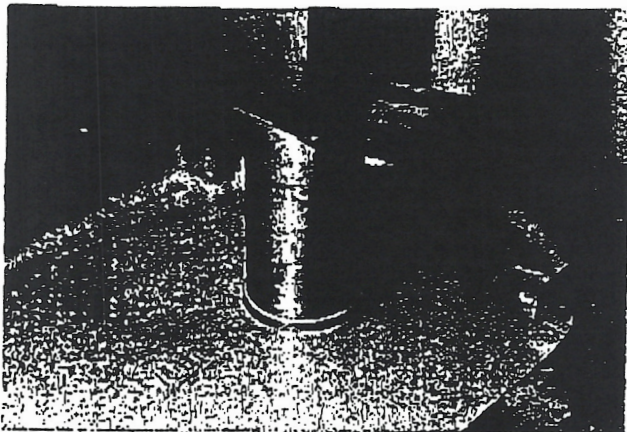

Figure 3 — Installing New Inboard Shaft Seal
2. Install the new *inboard* seal first (after preparing it as discussed below) using an arbor press. Place the machined front face of the end cover directly on the press table as shown in Figure 3, and use a steel disc or plug between the press ram and the seal. The disc should be 1-7/8" (4.763 cm) diameter, and must not be allowed to touch the housing bore. Press the seal into the bore lip side first, until its metal back face is approximately flush with the back surface of the end cover. The seal back face should also be true with the machined front face of the end cover within .005" (.127 mm) total indicator reading.